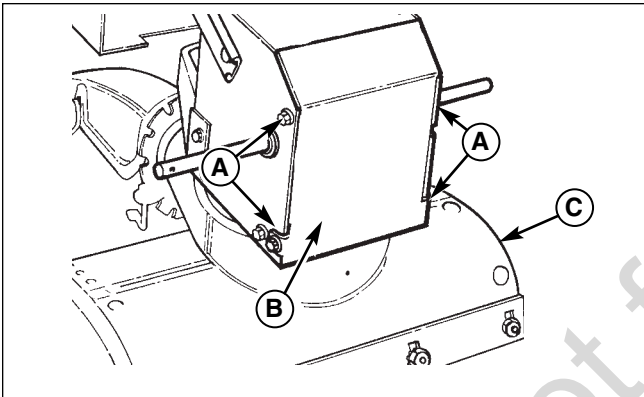
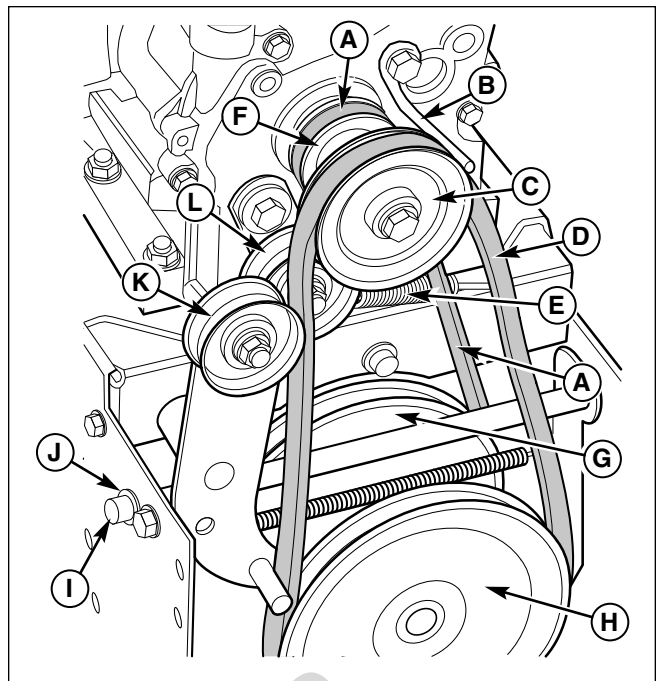
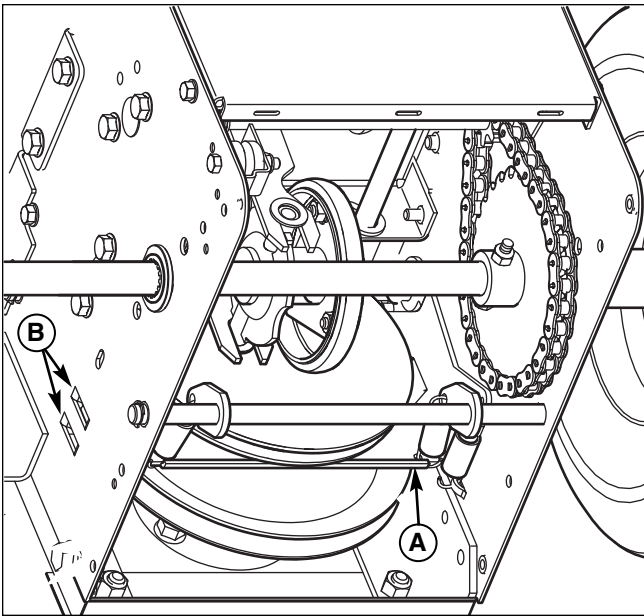

Figure 30. Bottom Cover
Figure 31. Pulleys and Belts
Figure 37. Traction Belt Change
2. Loosen the capscrews (A, Figure 30) on each side of the bottom panel (B).
3. Remove the bottom panel (B).
5. Loosen the belt guide (B, Figure 31). Pull the belt guide away from the auger drive pulley (A).
6. Pull the auger idler pulley (K) away from the auger drive belt (D) and slip the belt off of the idler.
7. Remove the auger drive belt (D) from the engine pulley. To remove the auger drive belt (D), the auger drive pulley (C) may have to be partially rotated.
13. Remove the old auger drive belt (D, Figure 31) from the impeller pulley. Replace the auger drive belt with an original factory replacement belt available from an authorized service center.
14. Install the new auger drive belt (D) onto the impeller pulley.
19. Install the auger drive belt (D, Figure 31) onto the impeller pulley (H).
20. Slip the auger drive belt (D) under the idler pulley (K).
25. Install the bottom panel (B, Figure 30). Tighten 1/4-20 screws to 25-35 lb-in (2,8-3,9 Nm).
3. Remove the traction drive spring (E, Figure 31).
4. Remove the e-ring (J, Figure 31) from one end of the swing plate axle rod (I).
5. Remove the swing plate axle rod (I) to allow the swing plate (A, Figure 37) to pivot forward.
6. Remove the old traction drive belt (A, Figure 31) from the traction drive pulley (G) and from the traction drive pulley (F). Replace the traction drive belt (A) with an original factory replacement belt available from an authorized dealer.
7. Install the new traction drive belt (A) onto the traction drive pulley (G) and onto traction drive pulley (F).
8. Make sure the traction drive idler pulley (L) is properly aligned with the traction drive belt (A).
9. Install the swing plate axle rod (I) and secure with the e-ring (J) removed earlier.
10. The bottom of the swing plate (A, Figure 37) must be positioned between the alignment tabs (B). Make sure the swing plate is properly secured.
11. Attach the traction drive spring (E, Figure 31).
12. Install and adjust the auger drive belt (D). See “Belt Replacement” in this section of the manual.
13. Adjust the belt guide (B). See “Belt Guide Adjustment” in this section of the manual.
14. Install the bottom panel (B, Figure 30). Tighten 1/4-20 screws to 25-35 lb-in (2,8-3,9 Nm).